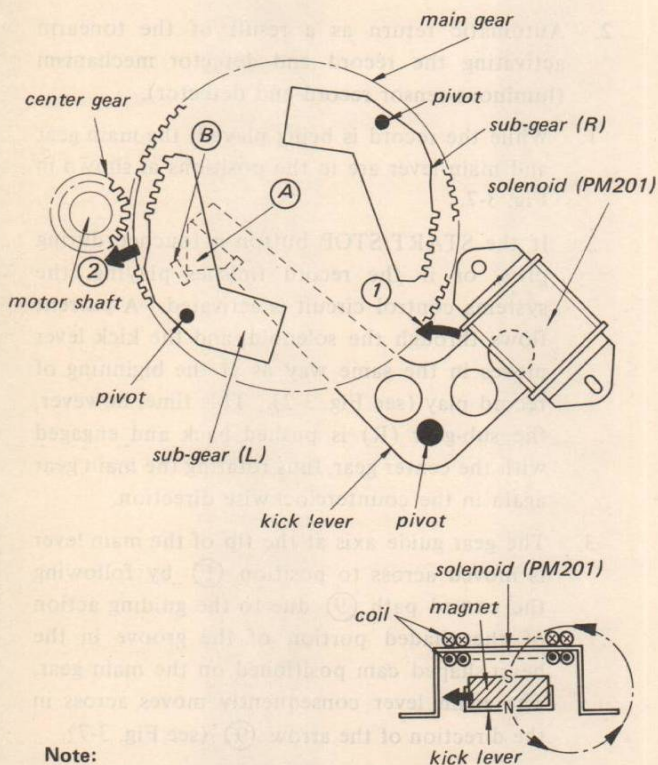

Fig. 3-2.
2. With current flowing through the solenoid, the kick lever is pulled in direction ①, resulting in tip A of the kick lever pushing against part B of the sub-gear (L). This sub-gear is thus pushed out in direction ② to engage the center gear mounted on the motor shaft. (See Fig. 3-2.)
2. If the START/STOP button is touched during play, or if the record finishes playing, the systems control circuit is activated. A current flows through the solenoid, and the kick lever moves in the same way as at the beginning of record play (see Fig. 3-2). This time, however, the sub-gear (R) is pushed back and engaged with the center gear, thus rotating the main gear again in the counterclockwise direction.